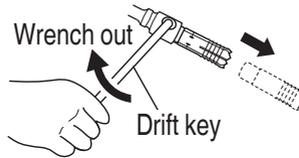

Fig. 10
- (3) After cleaning out dust with a syringe, attach the plug to the anchor tip and drive in the anchor with a manual hammer.
- (4) After driving in the anchor, use the drift key to separate the anchor. (**Fig. 10**)